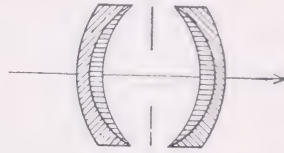

FIG. 28. THE RECTILINEAR LENS
*The Rectilinear.* By bringing two achromatic lens combinations together as a single unit and setting the diaphragm between them, it is possible to eliminate barrel and pincushion distortion. The resulting lens is known as the *rapid rectilinear*. Its corrections make it usable at openings larger than in the case of the achromatic (as large as  $f\ 8$ ). See Fig. 28.